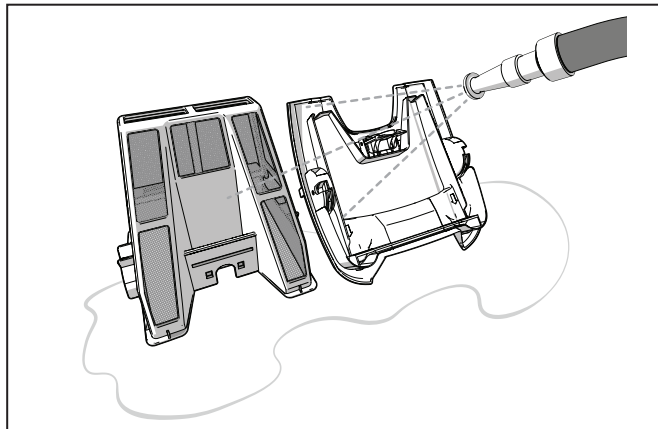

Figure 12. Rinse the Filter Canister
5. Using a hose with clean water, rinse the filter canister and lid to remove all debris (Figure 12).